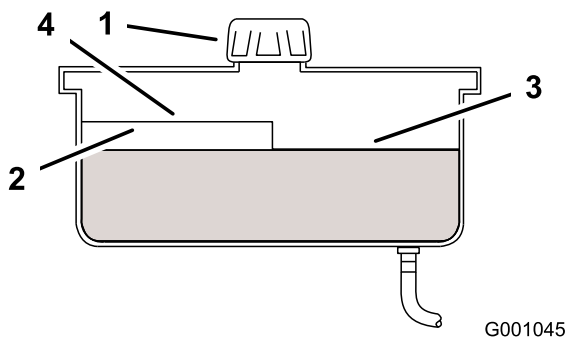

Figure 56
4. Clean area around cap and filler neck of hydraulic tank (Figure 56).
5. Remove cap from filler neck. Look inside to check the fluid level in the reservoir. (Figure 56).
- Note:** The fluid level should be to the top of the hot level of the baffle, when the fluid is warm (Figure 56).